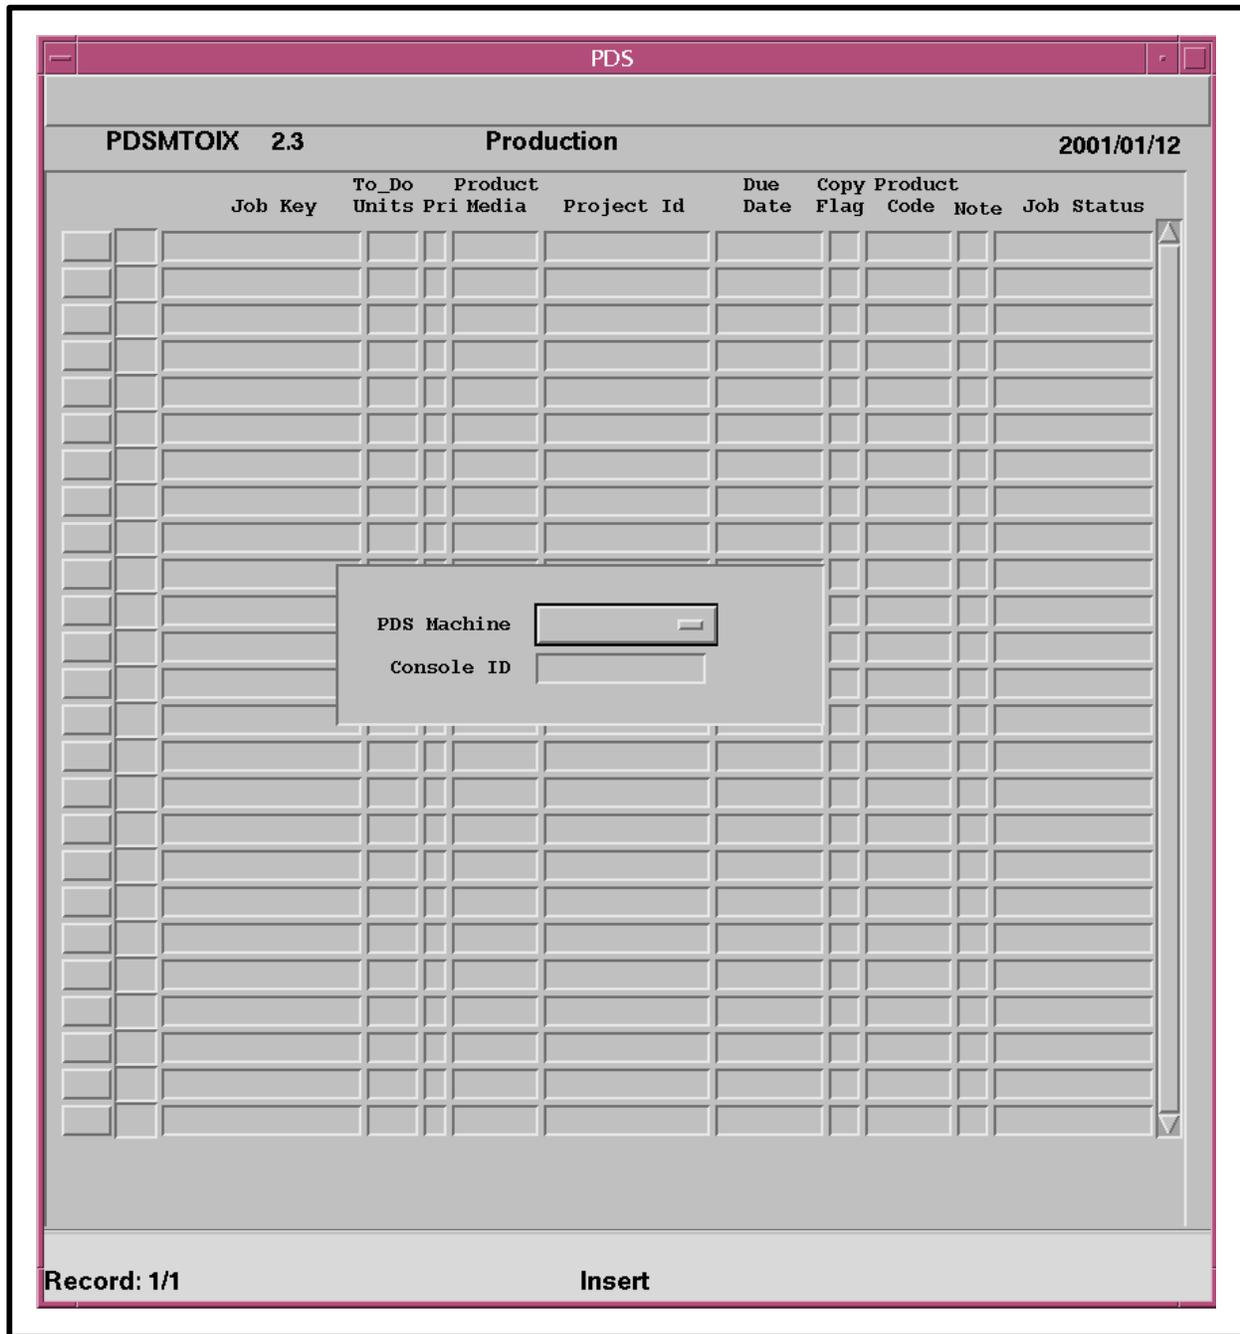

Figure 23. PDSOI Startup Window
- The **PDSOI Startup Window** (Figure 23) is displayed.